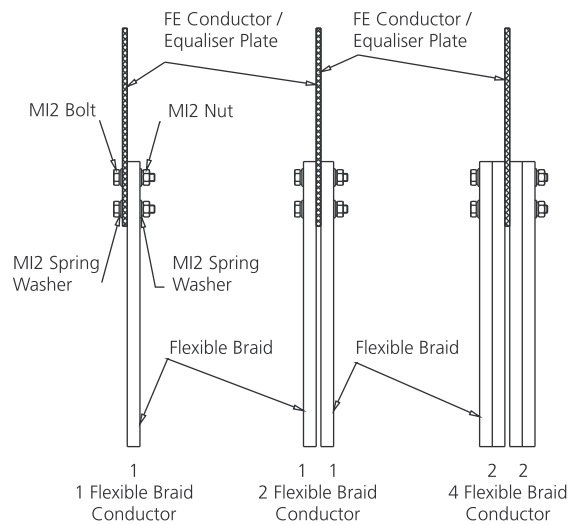

Fig 11
- Preferred arrange for connecting multiple braids to the FE end/equalizer plate is shown in fig. 11 depending upon no. of braids to be connected.